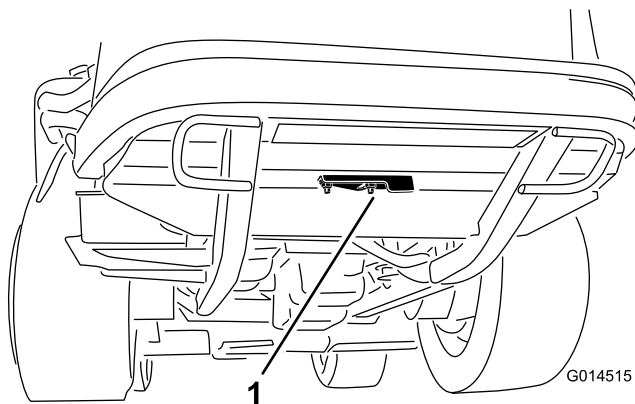

Figure 40
2. Loosen the flange nut securing the clean out cover to the underside of the rear frame (Figure 40). Rotate the cover to the side to expose the clean out hole in the frame.